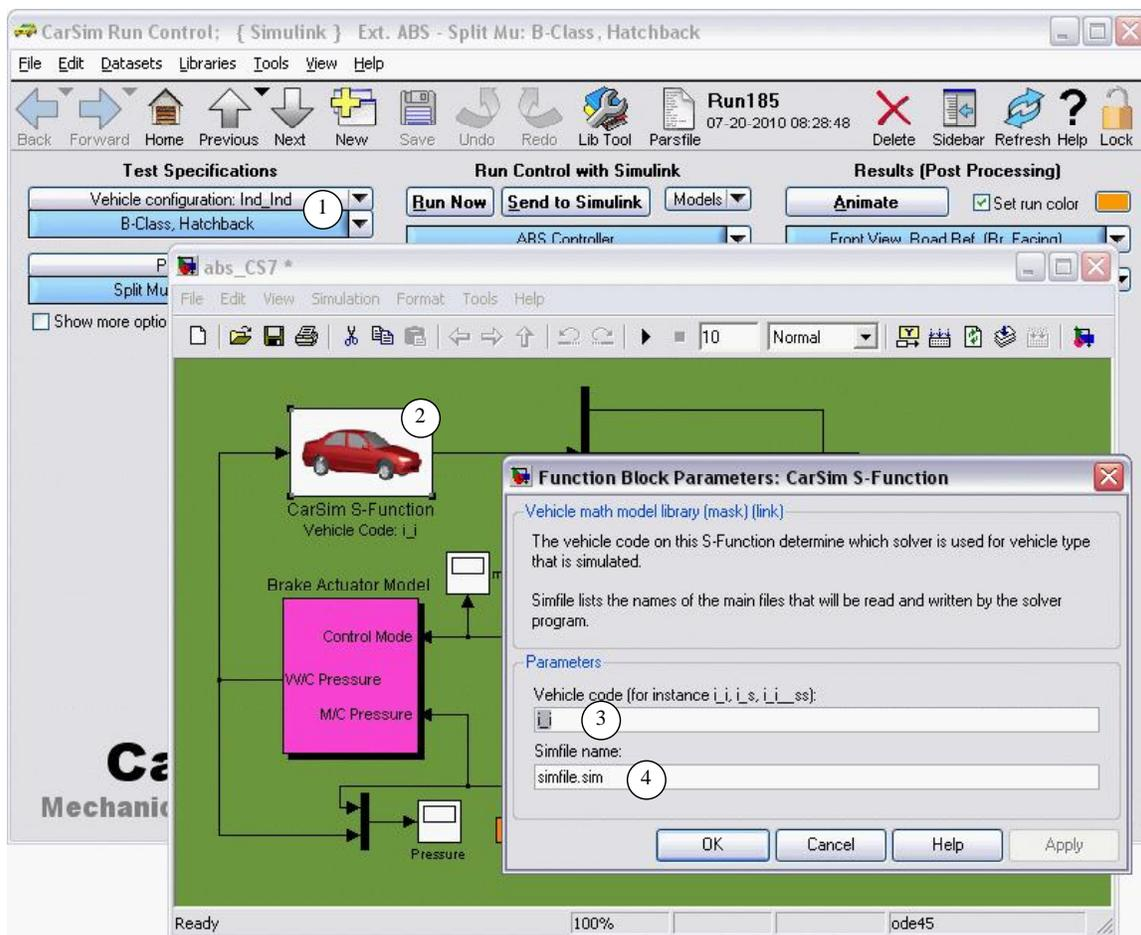

Figure 2. Simulink model with one VS vehicle model.
Before going into the details of the two-vehicle example, it is helpful to understand how a VS browser such as `carsim.exe` works with Simulink for a single vehicle. For example, consider the Simulink ABS model included in CarSim that is shown in Figure 2. (Similar ABS models are included in BikeSim and TruckSim.)
VS products such as CarSim include a group of dynamically linked library (DLL) solver program files, each optimized for a specific multibody vehicle configuration involving suspension types, number of axles, number of trailers, and other factors. The multibody configuration is identified by a *vehicle code*, associated with the vehicle dataset. In Figure 2, the vehicle dataset link shows that the vehicle code for the selected vehicle is `Ind_Ind` ①. (This code represents a 2-axle vehicle with independent suspensions front and rear.) A shorter code `i_i` was sent automatically to the Simulink model by the CarSim browser; this code is shown under the CarSim S-Function block ② and in the **Function Block Parameters** window ③.
Listing 1 shows the contents of the simfile for the example run from Figure 2.